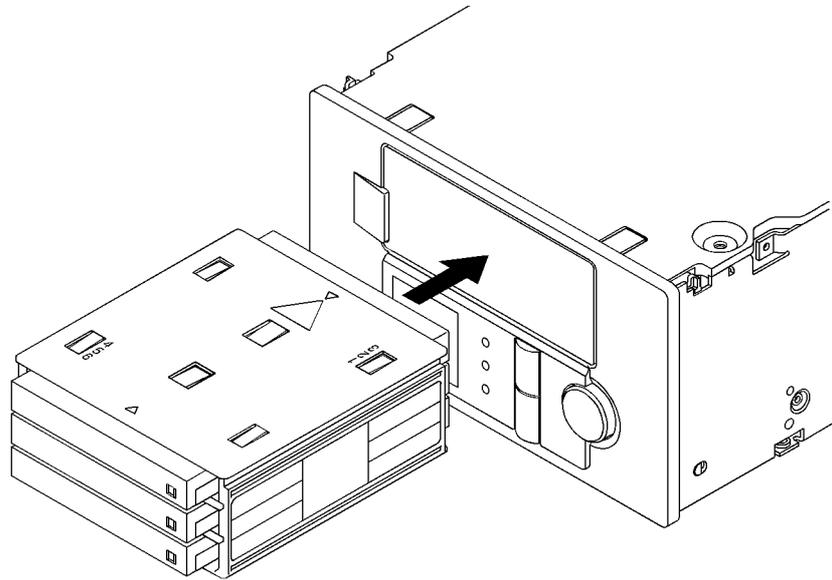

Figure 2-4 Inserting the Magazine into the Autoloader
2. Insert the magazine into the autoloader with the large arrow on top and pointing towards the autoloader (Figure 2-4). Apply steady pressure until the mechanism takes the magazine and pulls it into the autoloader.